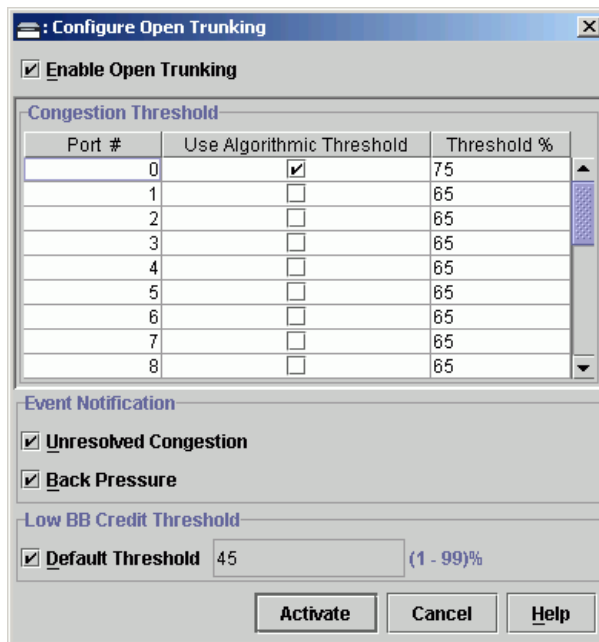

Figure 2-100 Configure OpenTrunking Dialog Box
2. At the *Hardware View*, select *OpenTrunking* from the *Configure* menu. The *Configure OpenTrunking* dialog box displays (Figure 2-100 on page 2-110).